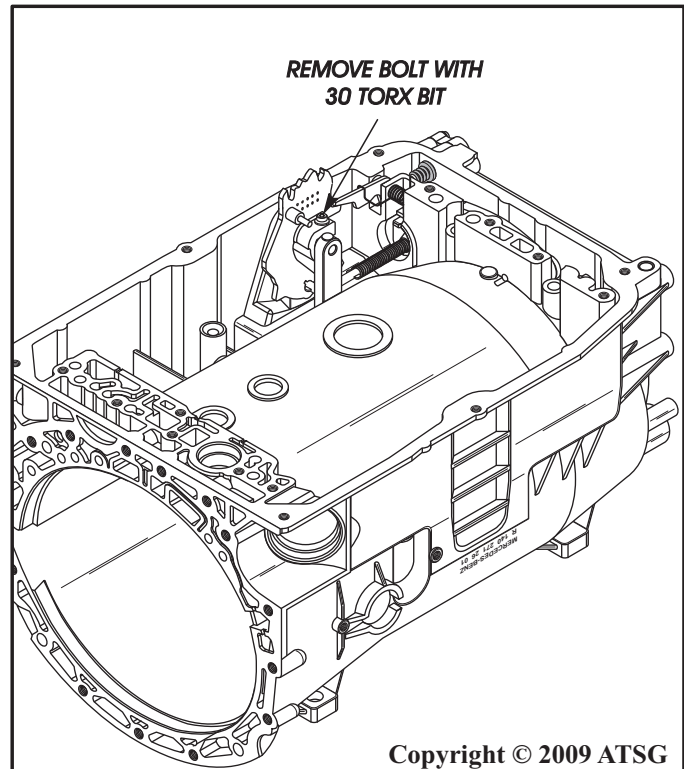

Figure 57
40. Rotate the transmission case so that pan rail is facing up, as shown in Figure 57, and remove linkage bolt using 30 Torx bit.